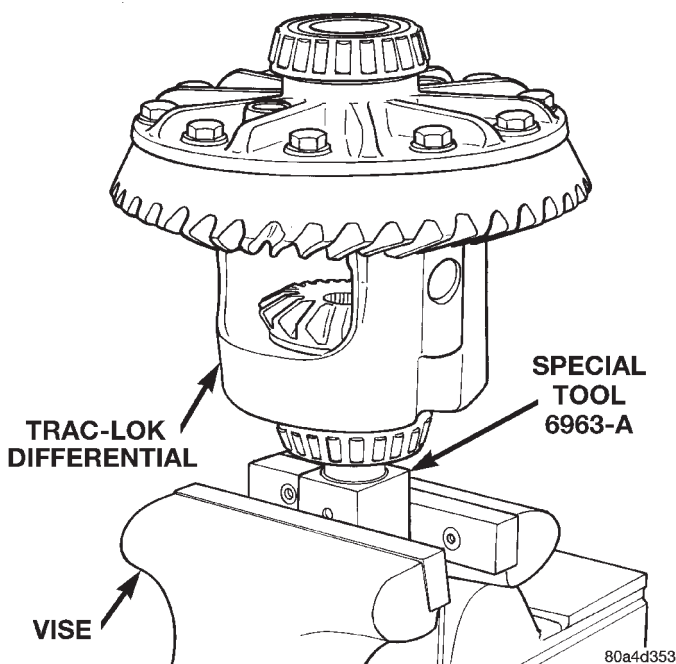

Fig. 54 Differential Case Holding Tool
(2) Position the differential case on Side Gear Holding Tool 6963-A (Fig. 54).